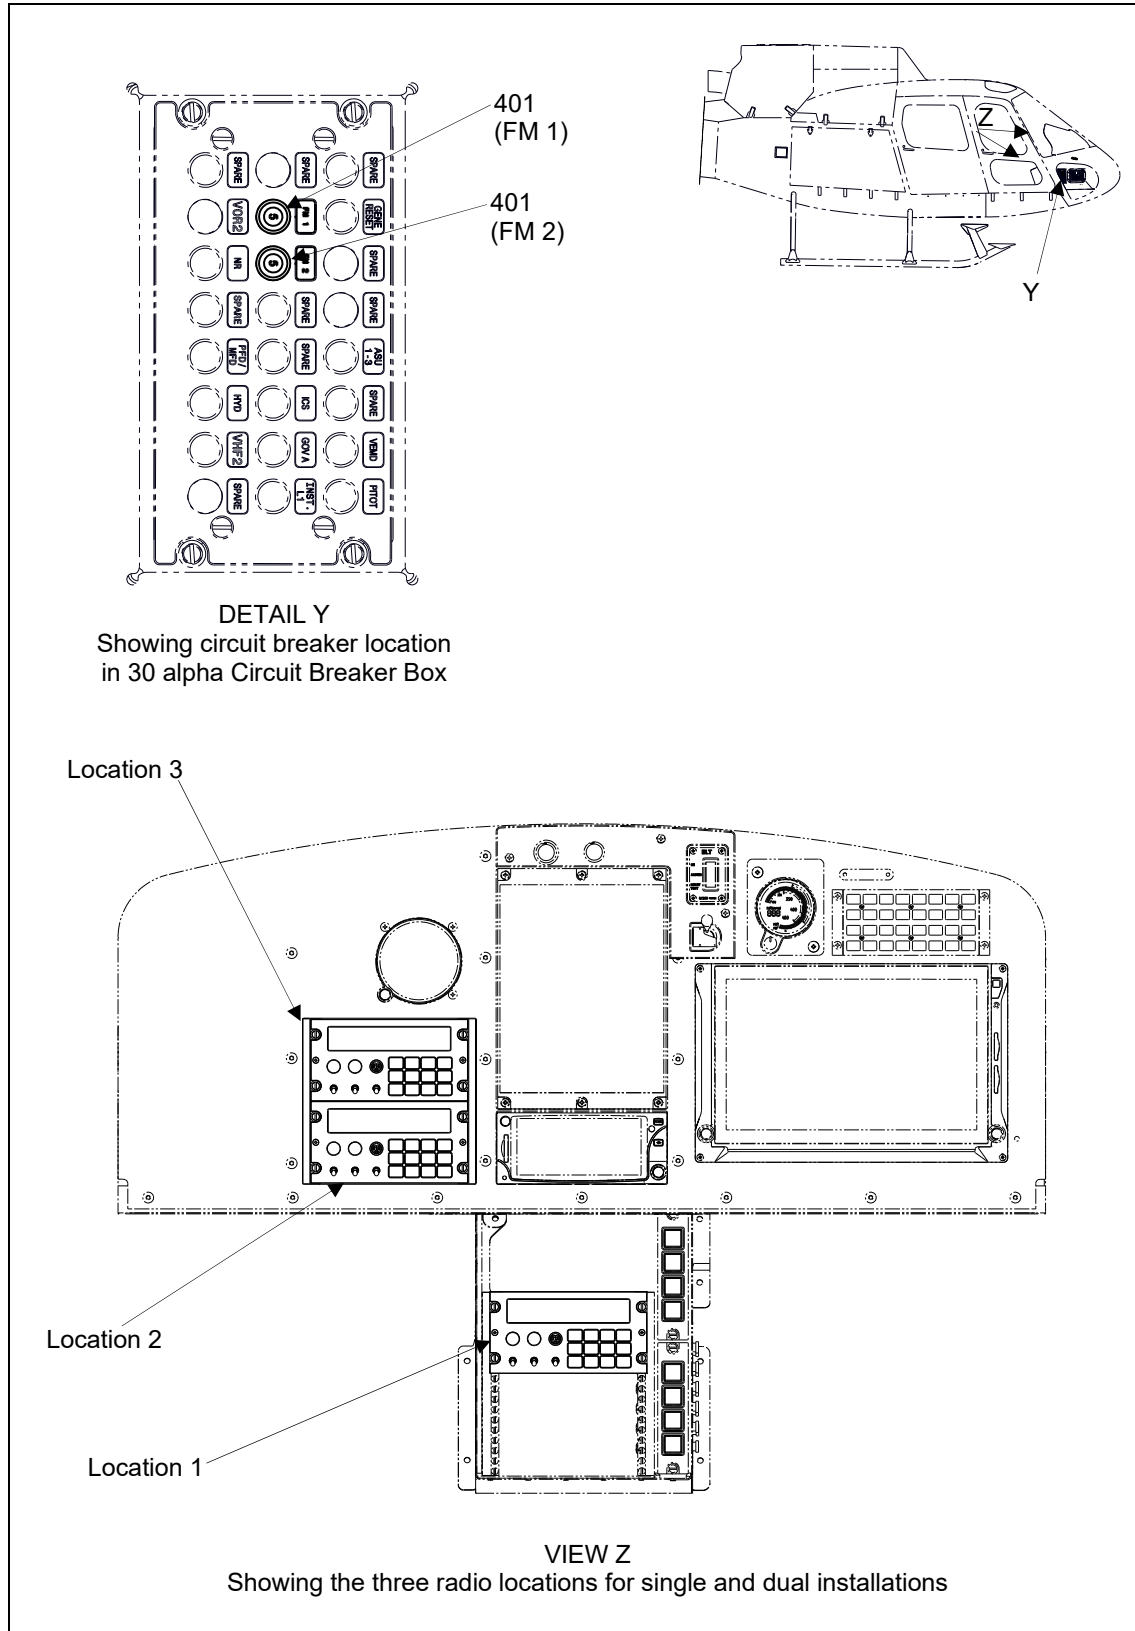
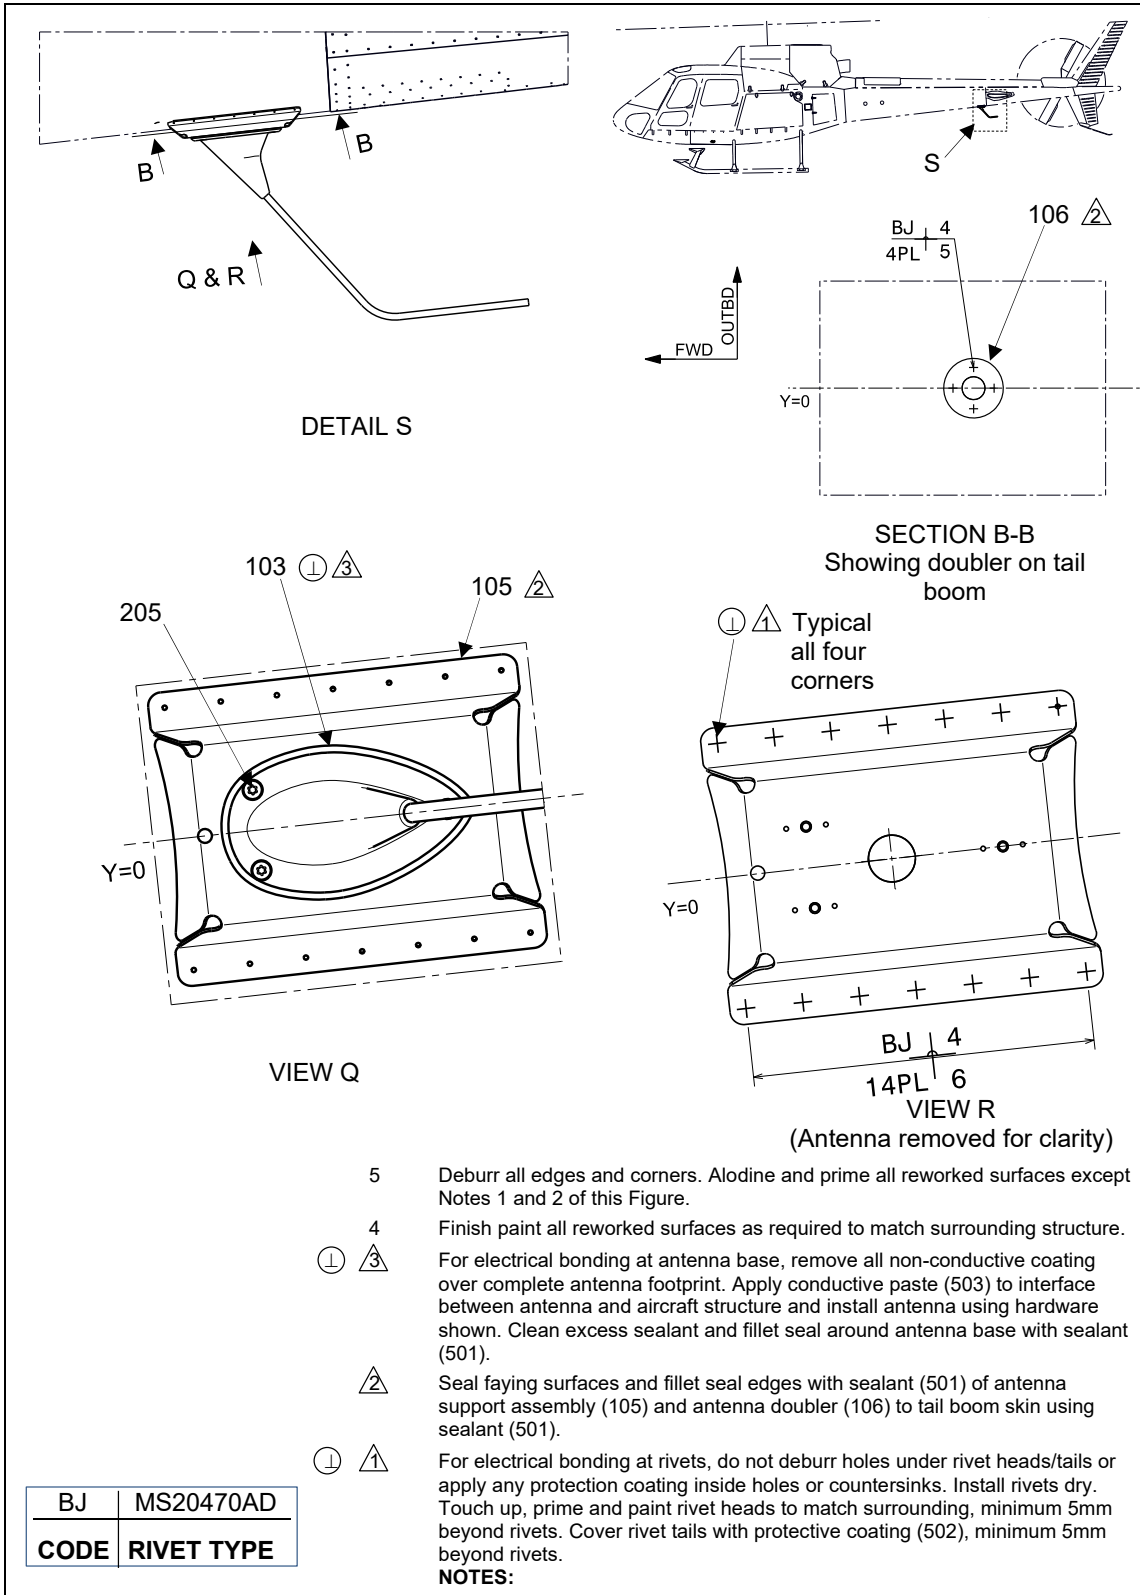
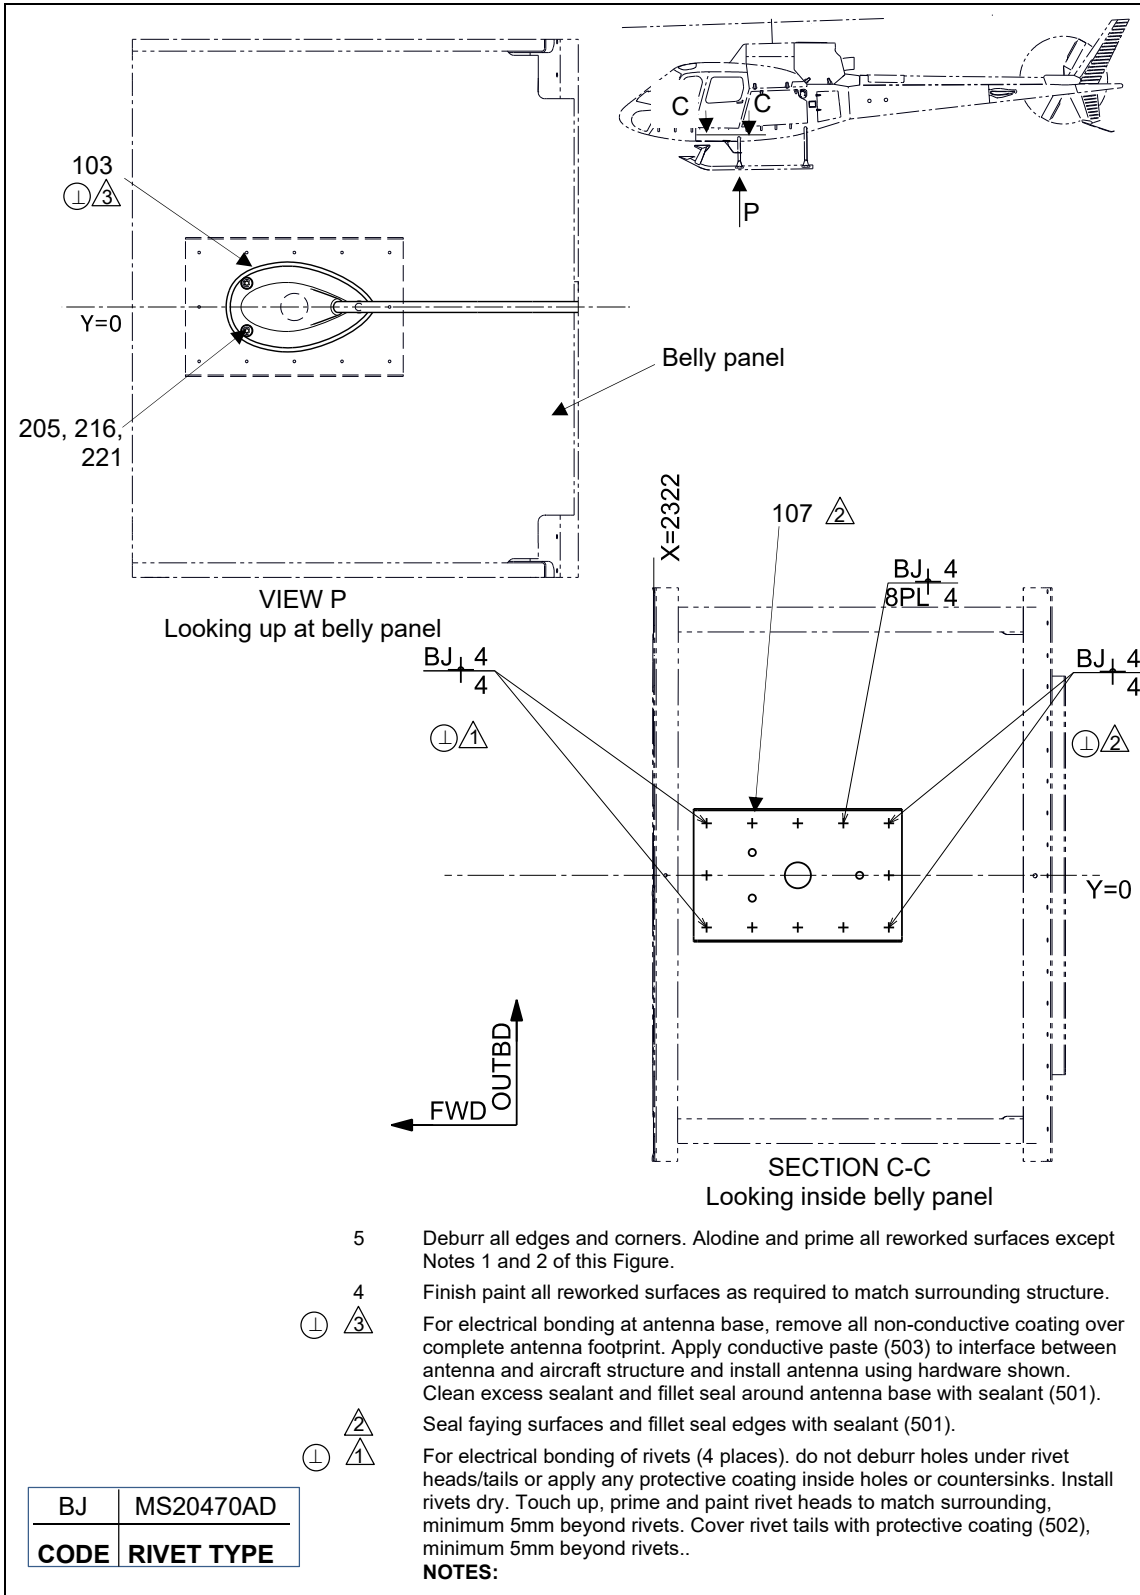

Figure 1 General Layout, Single or Dual VHF-FM Radio Installation
Figure 4 VHF-FM 1 Antenna
Figure 5 VHF-FM 2 Antenna
- A. The Single or Dual VHF-FM Radio Installation provides a means of a secondary radio communication. This installation offers single FM 1 or dual FM 1/FM 2 VHF-FM Radio(s) operation. Depending on the configuration, single or dual transceivers are positioned in the instrument panel or center console and are accessible to the pilot and co-pilot. There are three locations available to install the radio transceivers. The single FM 1 radio can utilize any of the three available locations. The dual FM 1/FM 2 can only utilize two of the three locations. Refer to Figure 1.
The VHF-FM Radio circuit breakers are located in the 30 alpha Circuit Breaker Box located on the RH side of the Instrument Panel Pedestal. Refer to Figure 1. Antenna for FM 1 radio is installed on the tail boom. Refer to Figure 4. Antenna for FM 2 radio is installed on the belly panel. Refer to Figure 5.
Legend for Figures 1 to 5